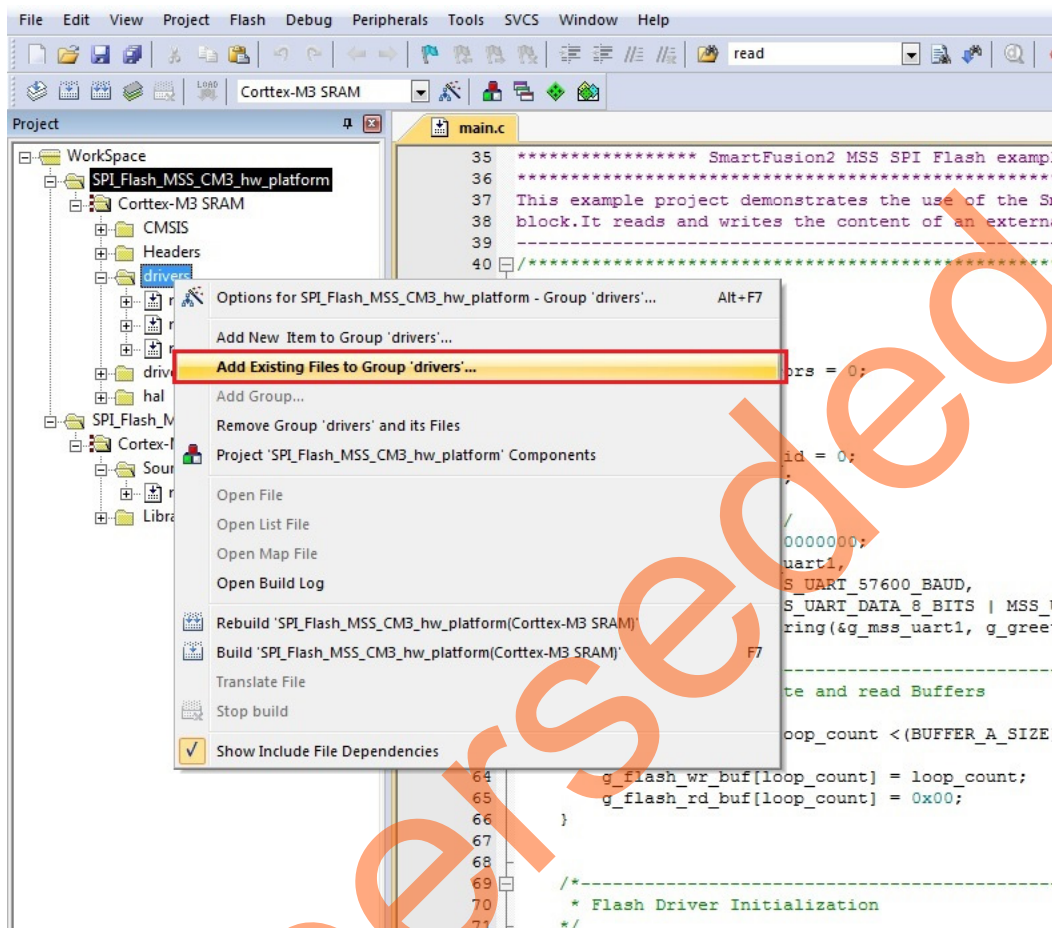

Figure 23 • Project Explorer Window
6. Right-click **drivers** and add the driver file (at25df641.c) to SPI_Flash_MSS_CM3_hw_platform project in the Keil uVision workspace as shown in Figure 23.